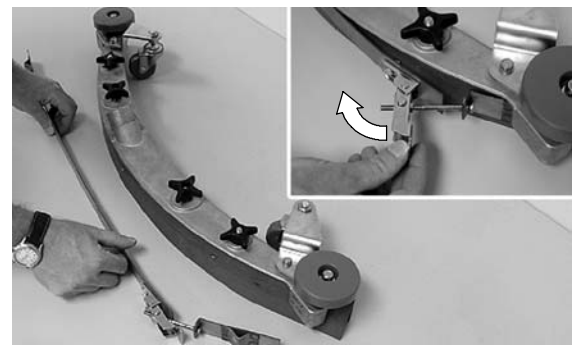

FIG. 51
2. Loosen the band clamp and remove the band from the squeegee assembly (Figure 51).